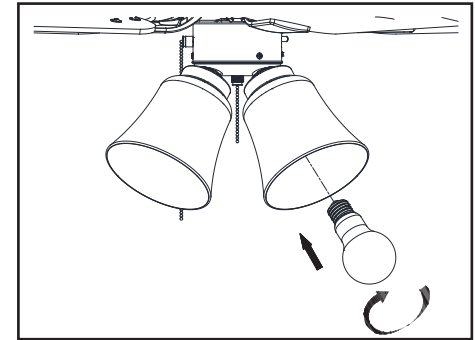

Figure 15
7. Attach the pull chain extensions provided to the light pull chain and fan pull chain. (Figure 15)